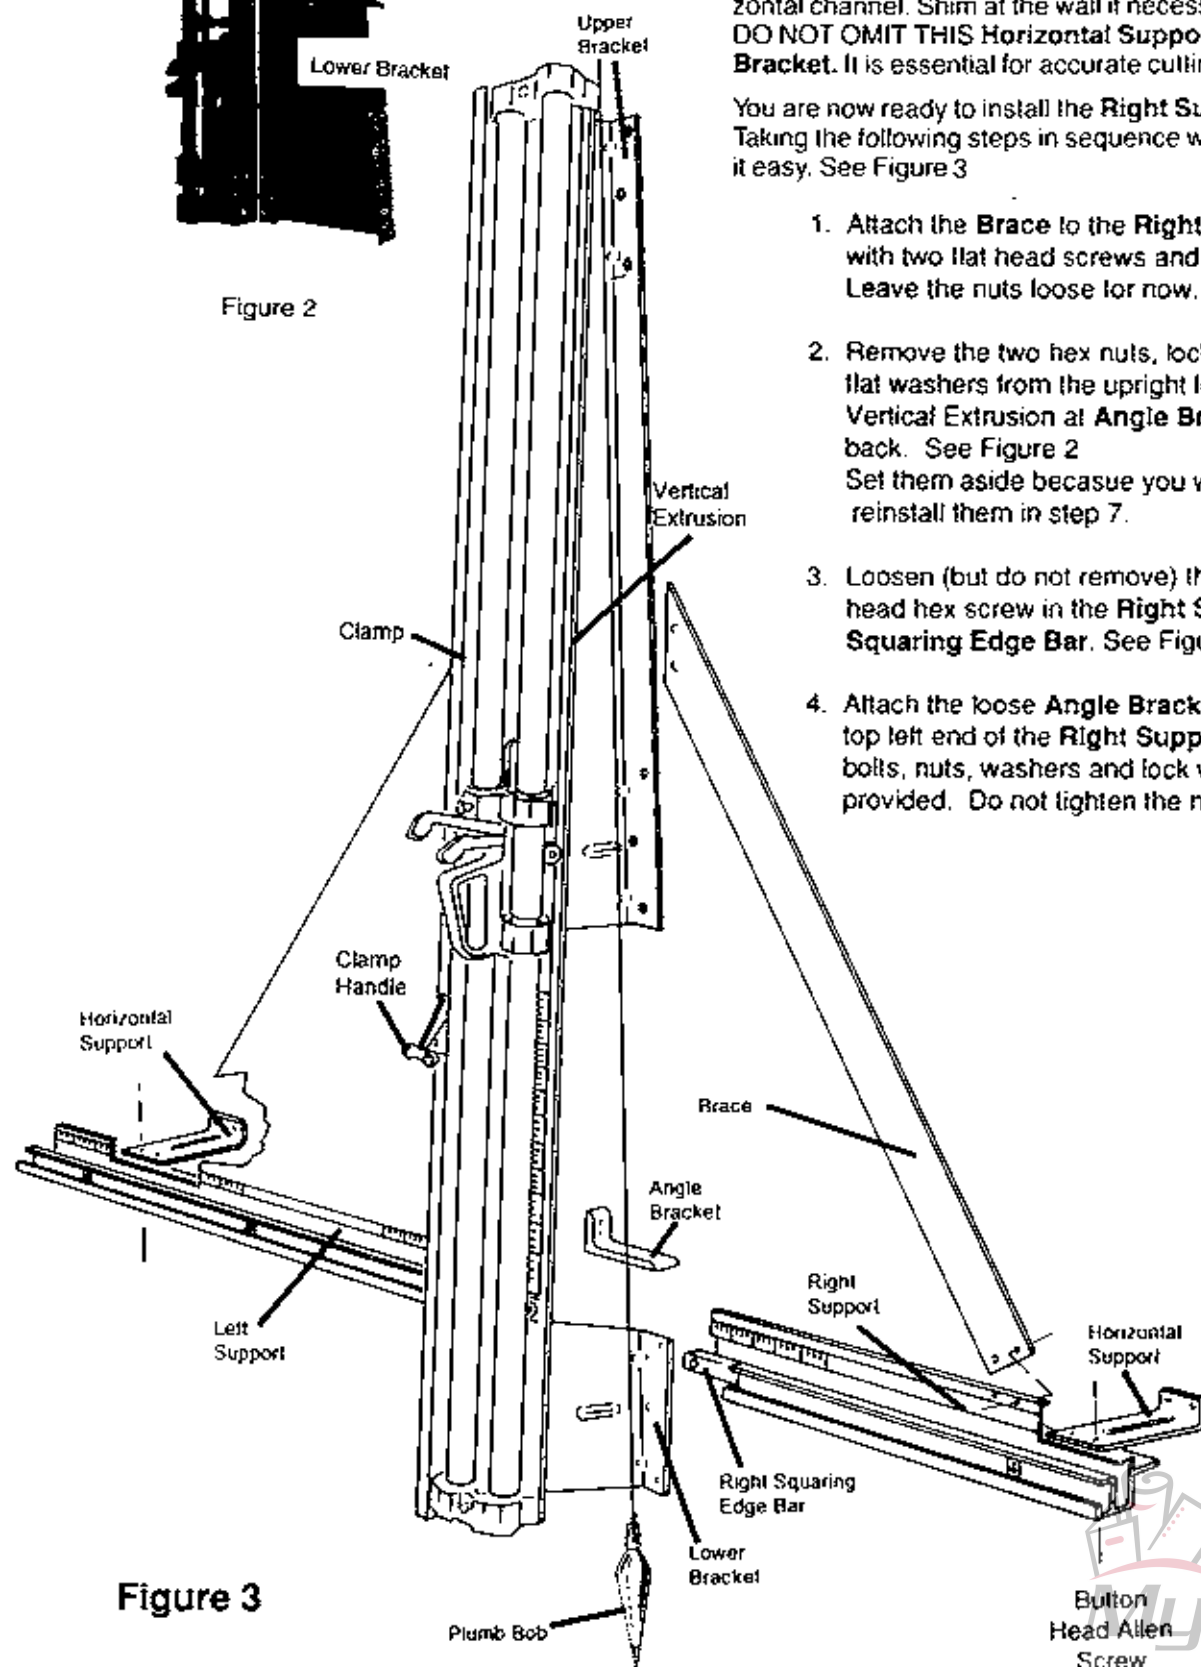

Figure 3
You are now ready to install the **Right Support**. Taking the following steps in sequence will make it easy. See Figure 3
3. Loosen (but do not remove) the **bulon head hex screw** in the **Right Support Squaring Edge Bar**. See Figure 3.